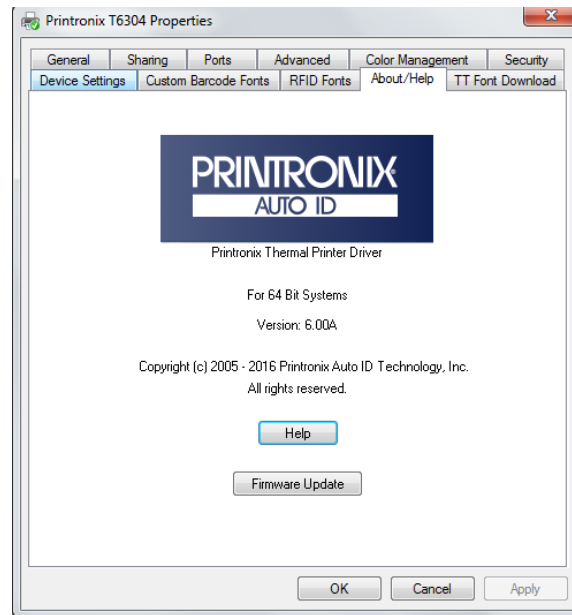

Figure 6 Updating Firmware
5. Click the **Firmware Update** button as in *Figure 6*.